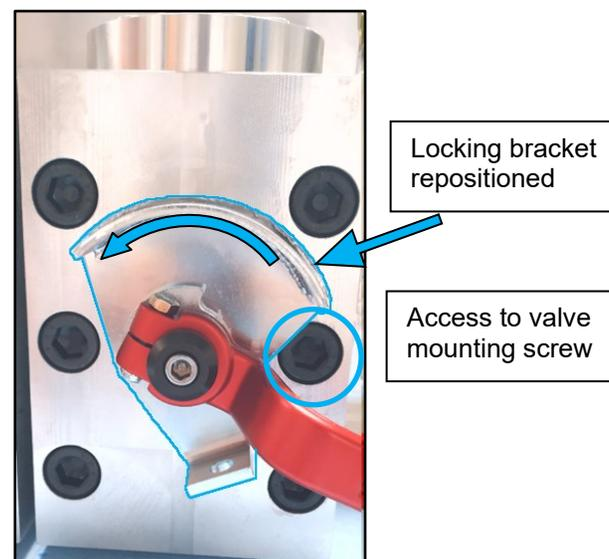

Figure 3-4. Isolation Valve Locking Bracket Repositioning
5. Adjust the handle locking bracket position to reach all six screws retaining the isolation valve (Figure 3-4). Move the bracket using a dead blow hammer, if required.